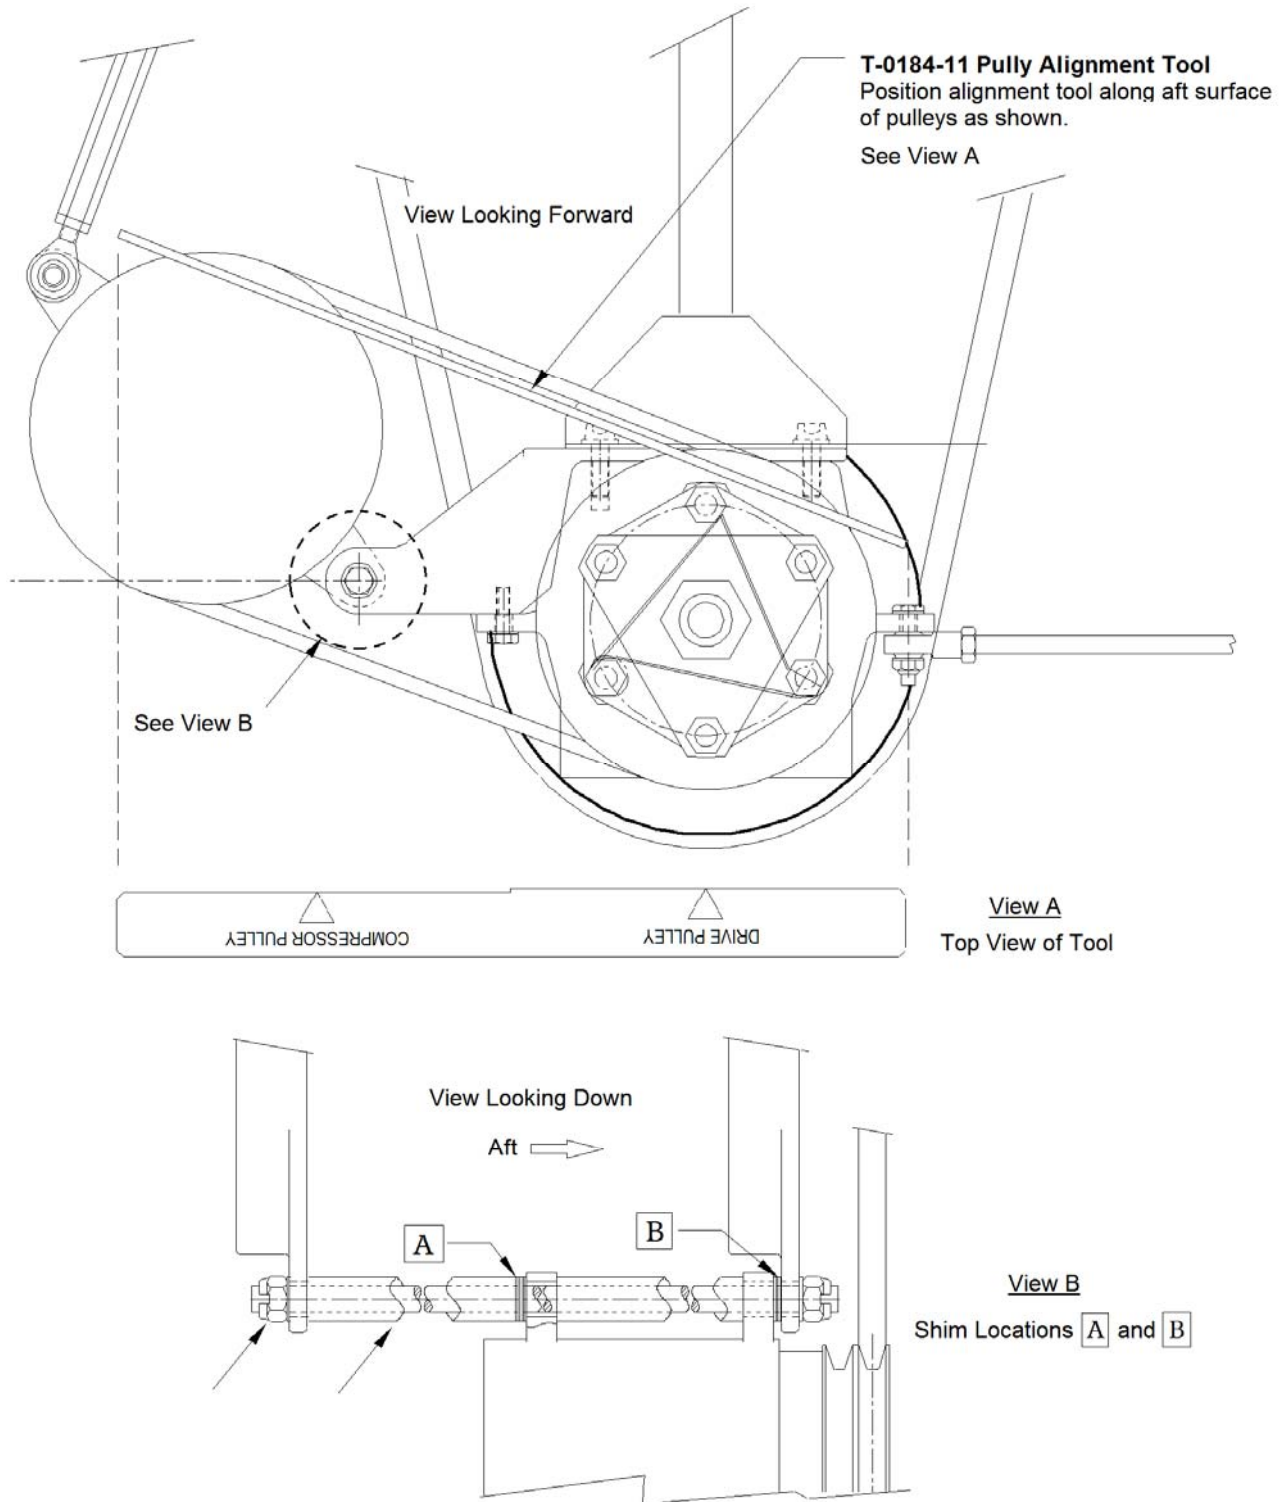

Figure 5-2. Pulley Alignment Tool Position, Shim Locations
- 1) Position the pulley alignment tool, T-0184-11, along the aft surfaces the compressor pulley and the drive pulley (Figure 5-2).
2) If a gap is present between the compressor pulley and the tool, shim at locations **A** or **B** with AN960616L washers, as required. To add shims, remove the nuts on the lower compressor support rod. Remove rod and spacers and add shims. Ensure that the spacers are positioned properly when reassembling (longer spacer is forward and the shorter spacer is aft) (Refer to Figure 5-2).
After the compressor pulley alignment is accomplished, the nuts installed on the lower compressor support rod must be torqued (Figure 5-2, Item 34).